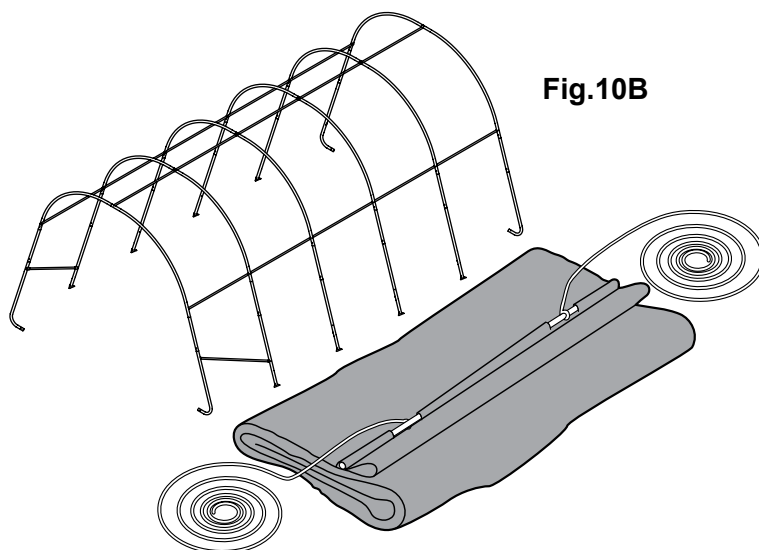

Fig.10B
**B.** Fold over the side closest to the frame so the pipe pocket is now accessible. Insert a cover pipe at the first middle rib from the front and the first middle rib from the rear so that it is inserted in the pipe pocket on both ends of the pipe but the center of the pipe is exposed. For long buildings it may be necessary to use additional pipes in the middle. Fig. 10B.